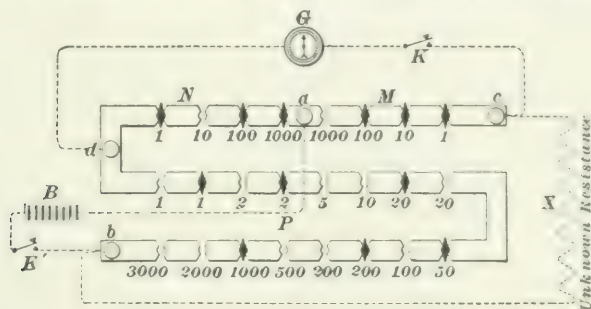

FIG. 42.
54. The actual various forms of resistance boxes used with the bridges differ widely from the diagram, but all are based upon this same principle and fundamental equation. A common pattern of resistance box for this purpose is constructed similar to the adjustable rheostat, as previously described, where the adjustments are made with removable plugs. Ordinarily, the contact pieces are arranged in the shape of a letter S, and the galvanometer and battery circuits are connected as shown in Fig. 42. The position of the two balance arms and the adjustable arm can be readily seen by comparing the connections of the battery and galvanometer circuits with those in the original diagram. K and K' represent keys for opening the circuits when the